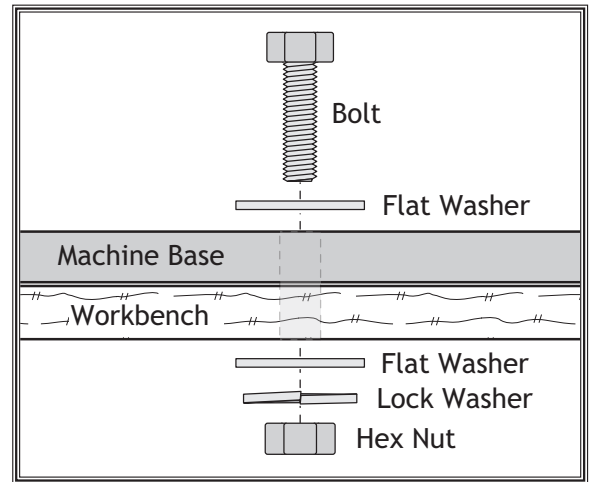

Figure 2. Example of a through mount.
The Model W1681 is designed to mount to a bench top using (4) $\frac{5}{16}$ " diameter lag bolts or through bolts, as shown in **Figures 2 & 3**.